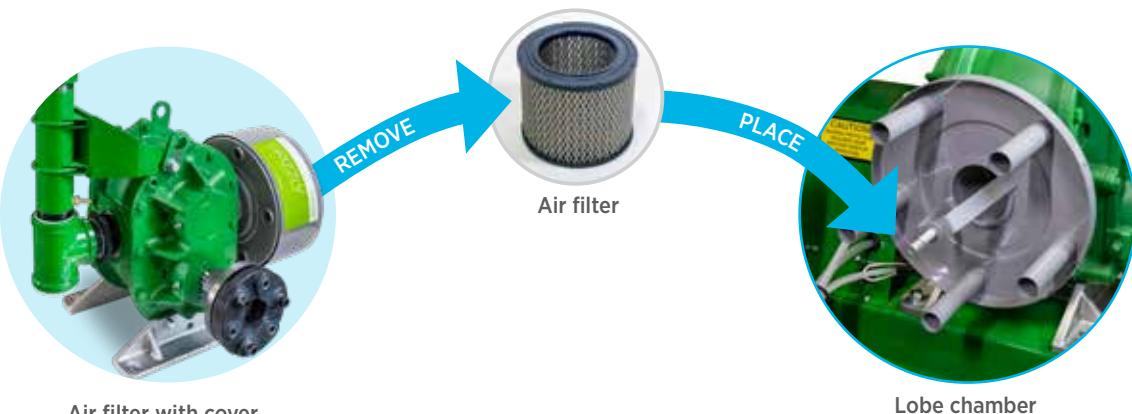

FIGURE 41: BLOWER AIR FILTER STORAGE
8. Remove and clean the filter-silencer element and housing. See *Figure 31 on page 34*, and *Figure 41 on page 41*.
- d. Pour one pint of lubrication oil (SAE-40) in the blower lobe chamber. (*Figure 41-center hole*)